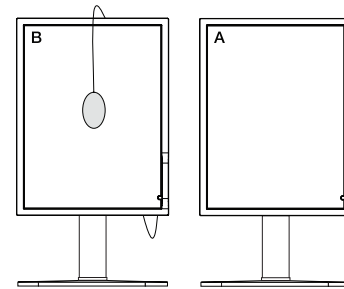

Figure C.2
8. Remove the USB optical sensor from source Display A and place in the center of Display B (**Figure C.2**).